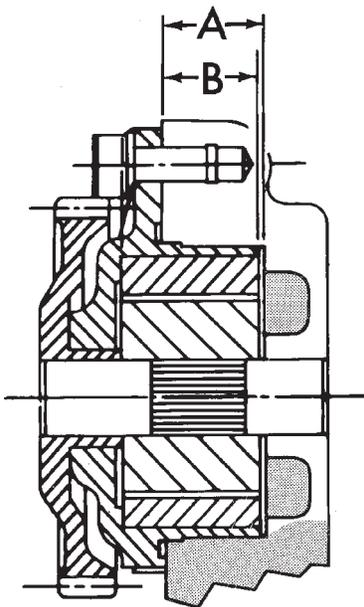

Fig. 91 Oil Pump Bore Depth
(1) Before installing oil pump check pump bore depth in block (A) and pump body height (B) (Fig. 91). Difference between A and B should be 0.020-0.082 mm.